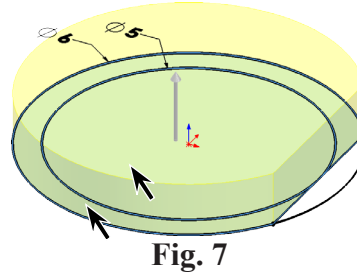

Fig. 7
- click the **two contours**, **Fig. 7**